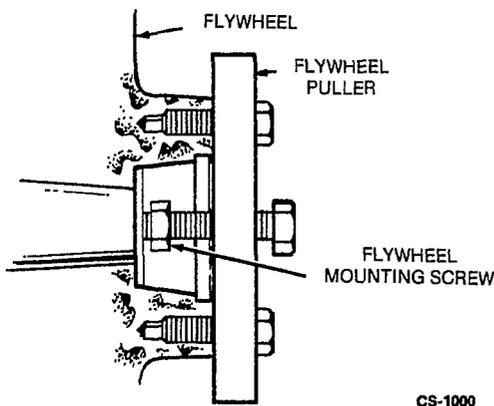

FIGURE 8. BLOWER WHEEL PULLEY
2. Install a puller bar on the flywheel as shown in Figure 8.